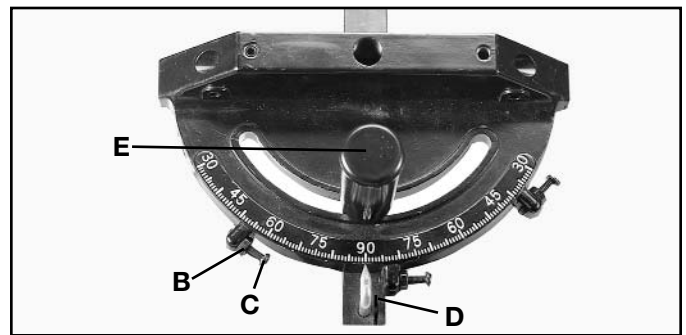

Fig. 26
This miter gage is equipped with individually adjustable index stops at 90 degrees and 45 degrees right and left. Adjustment to the index stops can be made by loosening lock nuts (B) Fig. 26, and tightening or loosening the three adjusting screws (C) until they contact the other end of stop guard (D) when the miter gage is at 90 and 45 degrees to the saw blade.
To operate the miter gage, simply loosen lock knob (E) Fig. 26, and move the body of the miter gage to the desired angle.